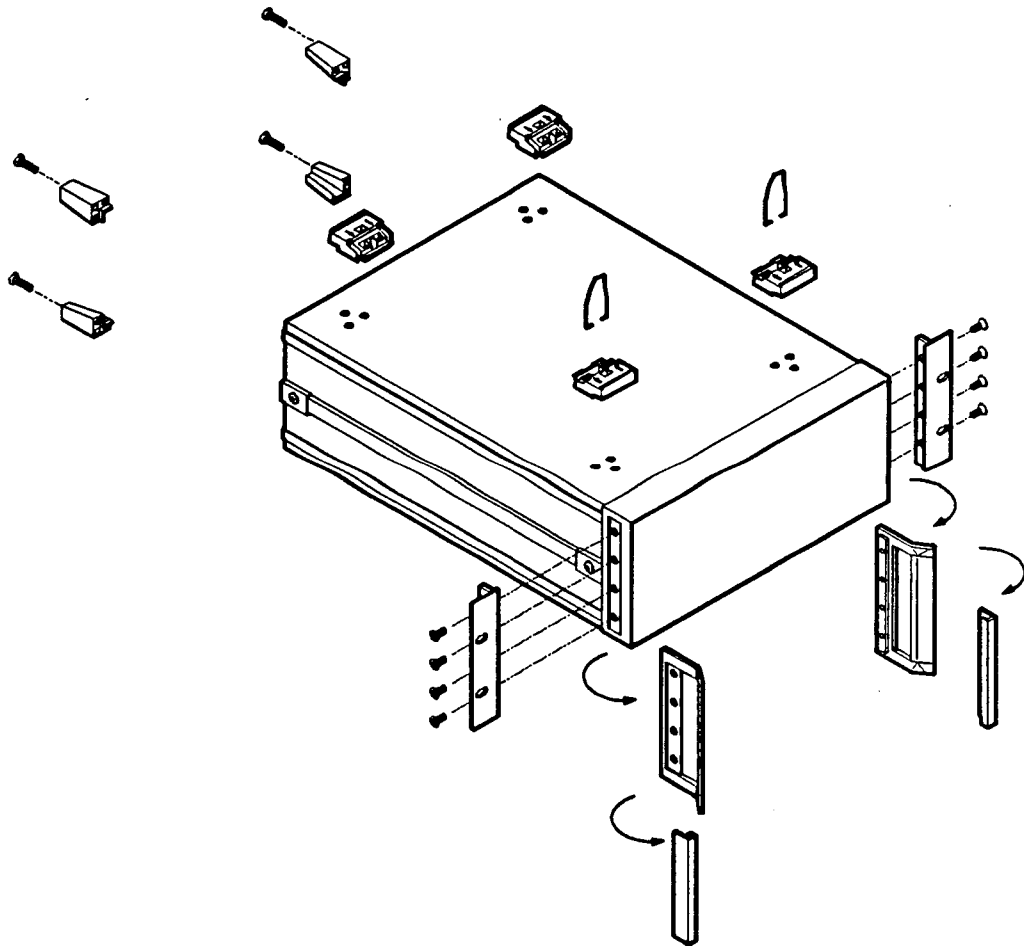

Figure 12-7. Rack Mount Flanges for Synthesizers with Handles Removed
1. Refer to Figure 12-7. Remove the handle trim strips.